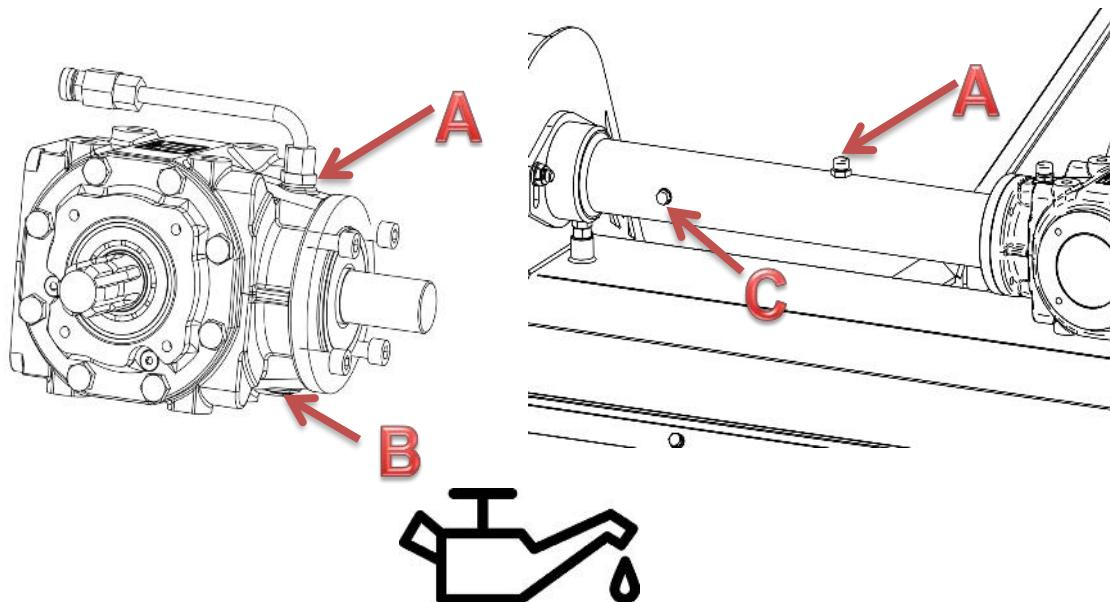
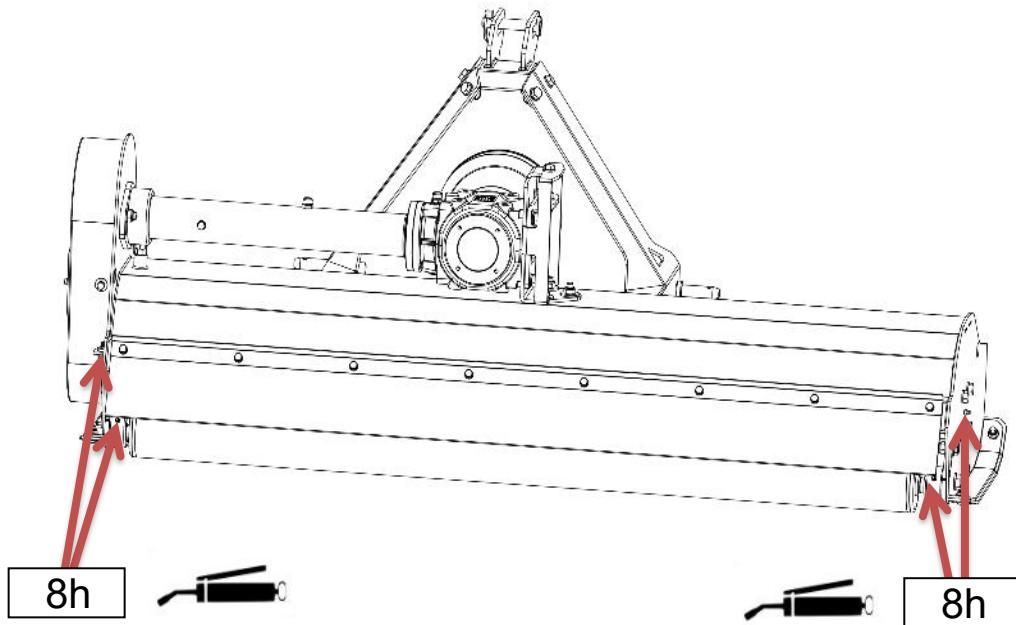

Figure 7. Oil change points
Figure 8. Lubrication diagram
The oil change points are marked in Figure 7, where the letters assay the oil filling inlet (A), drain plug (B) and sight glass (C).
All points indicated in Figure 8, equipped with ball type grease fittings, should be filled with solid grease ŁT43 using of a lubricating gun. Lubricate the jointed-telescopic shaft after removing it from the machine. Lubricate the telescopic part of the shaft at least after 8 hours of operation – when the shaft is entirely moved apart and impurities have already been cleaned. Details of PTO shaft operation are contained in a separate manual supplied with it. The figure 7 presents the location and recommended operating time after which the indicated components should be lubricated.
- lubricate the machine according to the lubrication diagram (Fig. 8),